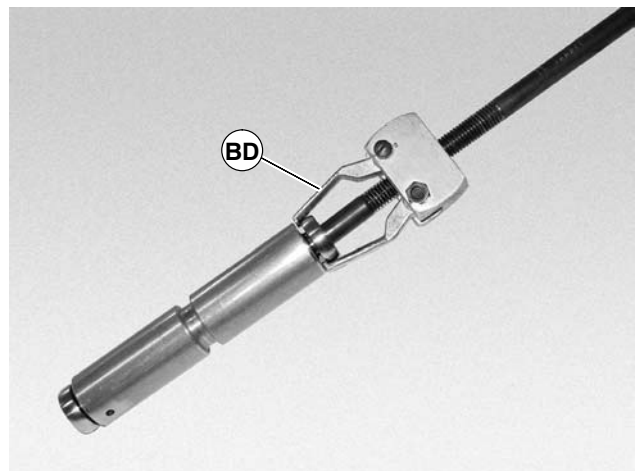

Figure 35 – Conveyor Pulley
1. Use a bearing removal tool, (BD of Figure 35, 36), part number 807-1078, or equivalent and remove both bearings from the pulley and the drive pulley.